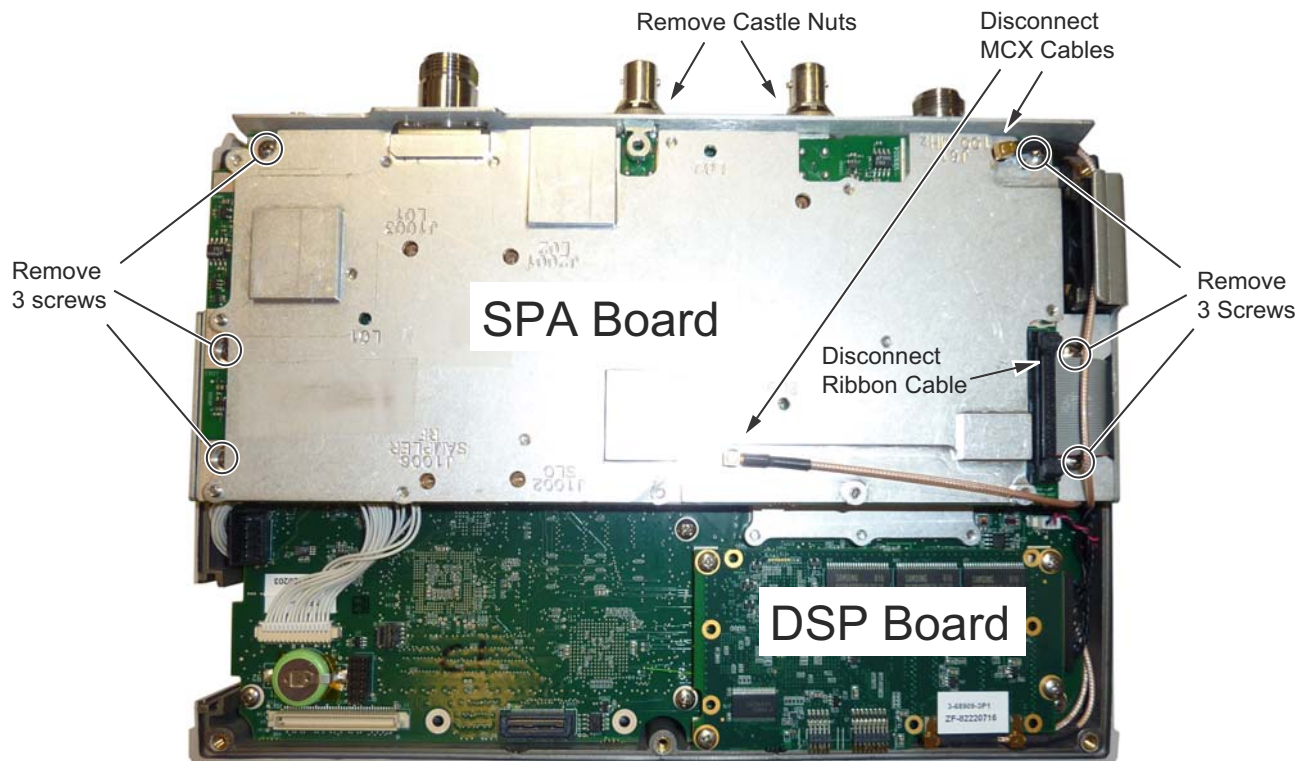

Figure 7-5. Removing the SPA Assembly
3. Remove the castle nuts from the External Reference connector and the External Trigger connector (Figure 7-5).